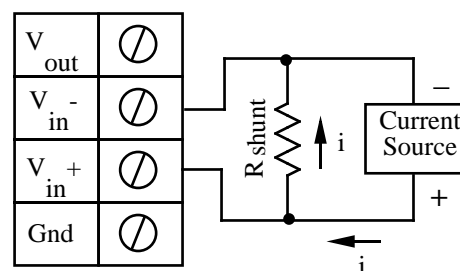

Fig 3.3 - Current Measurement.
5. Wire your current source per figure 3.3, and refer to the steps at the beginning of this chapter for more information on how to set up your sensor.